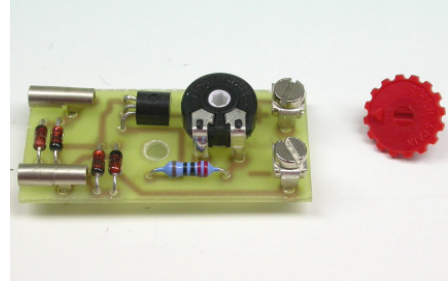

figure 1: The component LED constant lighting
2. The product can be seen in figure 1. These instructions are part of the product. Please retain them well.